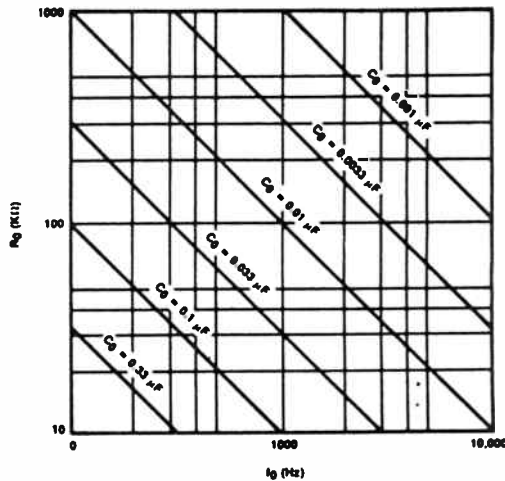

Figure 6. VCD Frequency vs Timing Capacitor
- c) Calculate value of  $C_0$  from design equation (1) or from Figure 6:
Step 3: Calculate  $C_0$  from Figure 6:  $C_0 = 0.044$   $\mu$ F
- Calculate  $C_0$  to set center frequency,  $f_0$  equal to  $f_S$  (see Figure 6):  $C_0 = 1/R_0 f_S$
- Choose  $C_0$  for  $f_0 = 1$  kHz (from Figure 6):  $C_0 = 0.05 \mu F$ .